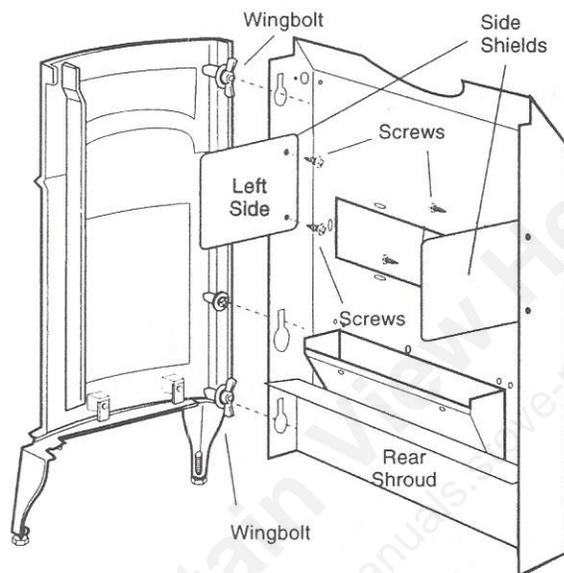

Figure 9. Fasten the side shields to the rear shroud, and the left end to the rear shroud.
- 1. Install the Side Heat Shields.** Use two #10 x 1/2" sheet metal screws to attach each heat shield to the sides of the rear shroud as shown in Figure 9.
- 2. Attach the Rear Shroud to the Left Side plate** by aligning the key holes with the two wingbolts in the side. If necessary, turn the wingbolts to orient the blades vertically. Figure 9. Slide the shroud downward to engage it behind all three washers on the side plate bolts and then tighten both wingbolts.